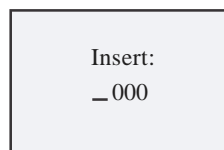

Fig. 4.15 Insert Function Block
1. Press OK at >Insert FB in the Editor Frame, thus the inserting status is entered, as shown in Fig. 4.15.